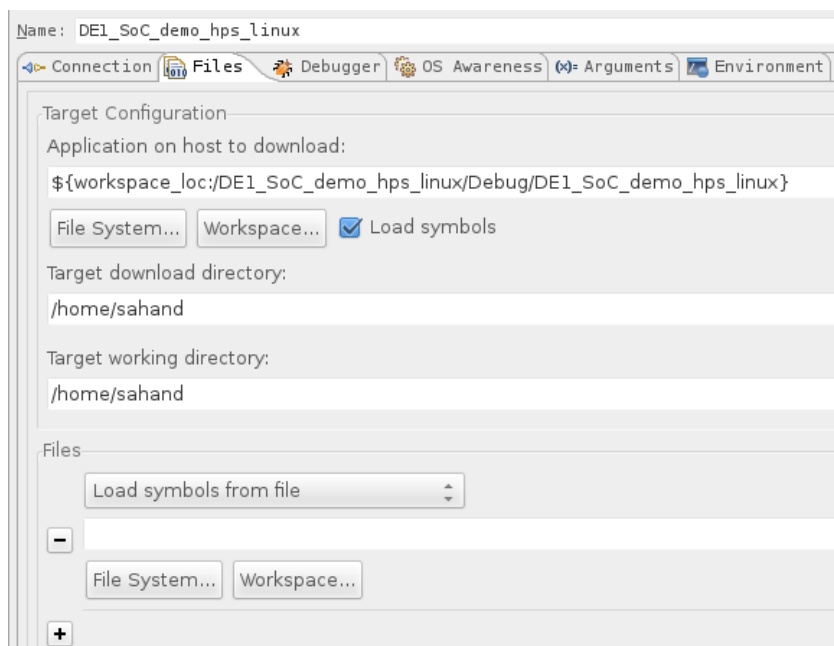

Figure 13-15. Debug Configuration "Files" Tab
- c. Set the "Target working directory" to your user directory. In my case it is "/home/sahand". You should have something similar to Figure 13-15.